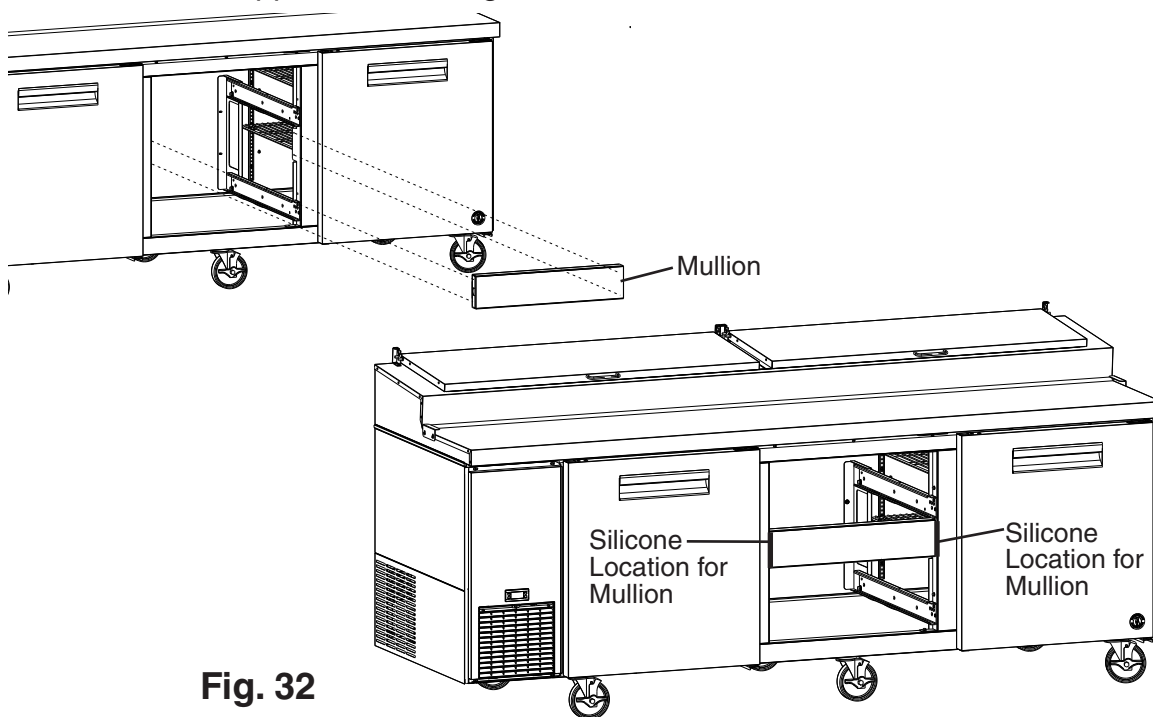

Fig. 32
- 26) Place a bead of food grade silicone down the 2 outside vertical gaps between the mullion and appliance. See Fig. 32.